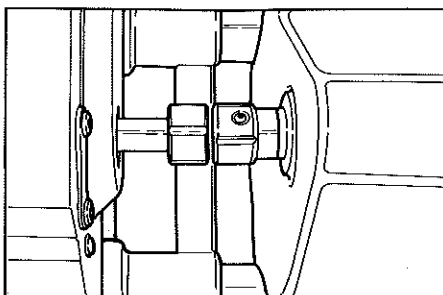

Figure 1. From the top, align the hubs horizontally.
1. **Install the mounting tubes.** Loosen the Mark V accessory mount lock and insert the eccentric mounting tubes (52). The long end goes up, the offset shoulder of each tube rests on the power mount and the shoulders point away from the power plant.
2. **Mount the strip sander on the Mark V.** Open the cover (1) and loosen setscrews (40) and set the strip sander onto the tubes (52). Don't tighten the setscrews yet.
3. **Align the hub horizontally with the Mark V's upper auxiliary spindle hub.** Slide the power plant toward the strip sander until the Mark V upper auxiliary spindle hub and the strip sander drive hub are about 1/2" apart. Look down to see if the hubs are aligned horizontally. (See Figure 1.)